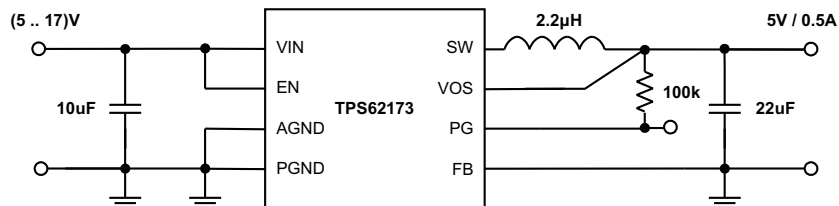

Figure 34. 5V/0.5A Power Supply
- Changed 50mV/s to 50mV/μs in Enable / Shutdown (EN) section ..... 15
- Changed 1A to 0.5A in Figure 34 to Figure 40 figure titles ..... 22